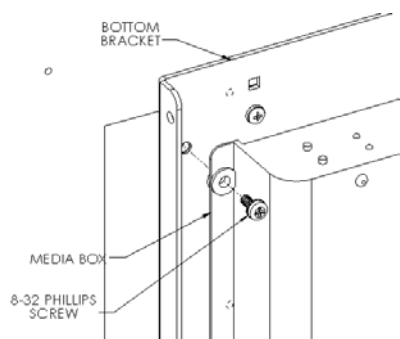
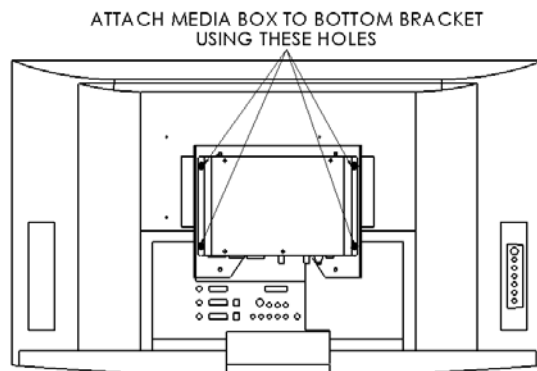

**Figure 4**
**Figure 5**
3. Attach bottom bracket to back of display using the M4 x 20mm screws (see Figure 4 and Figure 5). Do not over tighten screws.